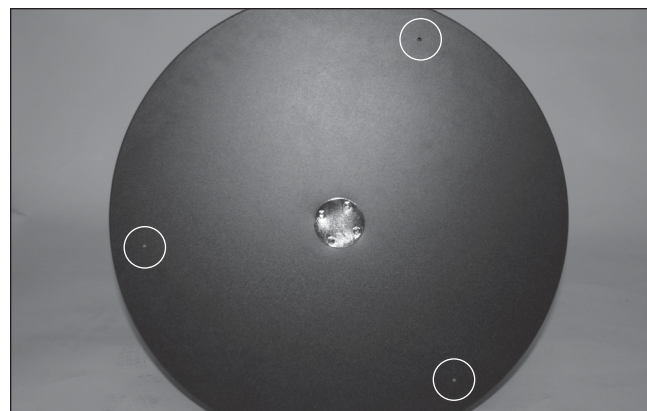
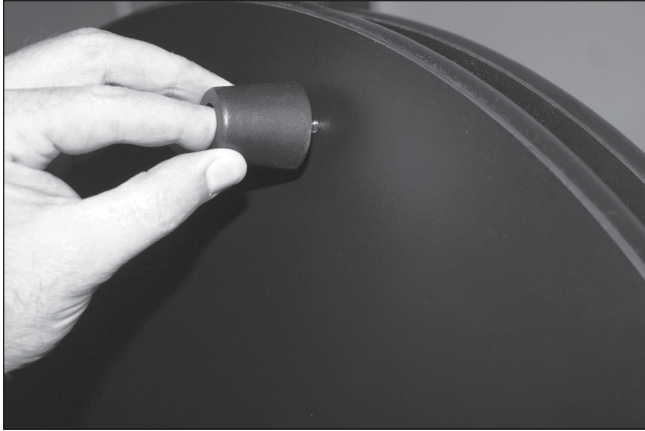

Figure 6. Starter holes for feet.
Figure 7. Attaching the base feet to the base.
1. Turn the baseplate assembly upside-down and gently rest it on the azimuth motor housing. Locate the three starter holes on the perimeter of the bottom baseplate (**Figure 6**). Insert the screws through the feet and thread them into the predrilled starter holes (**Figure 7**) with the supplied Phillips screwdriver until tight.